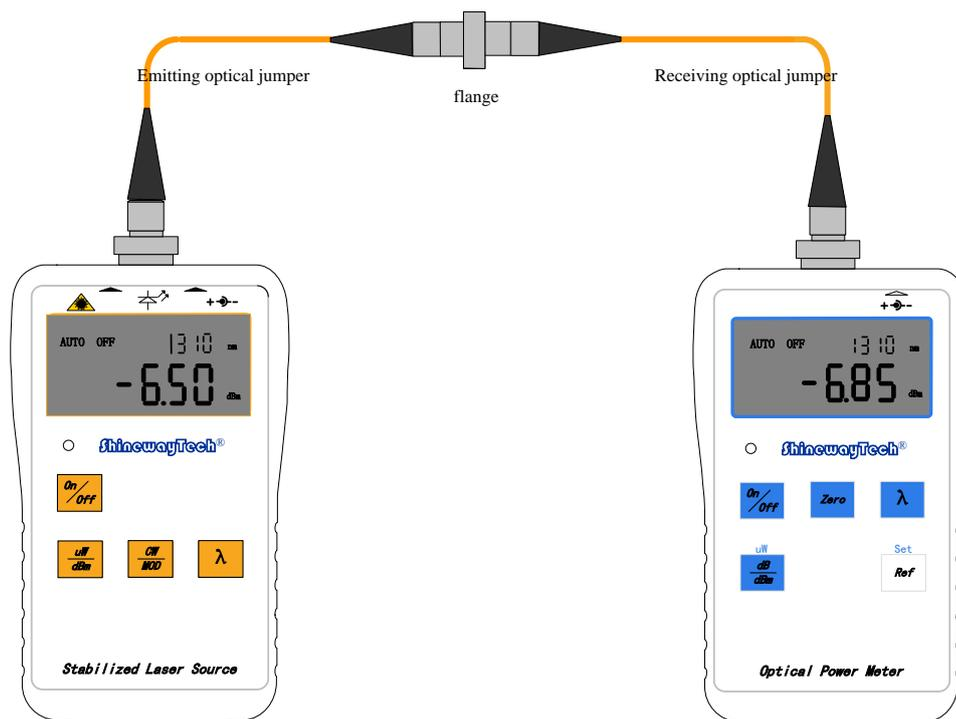

FIGURE25. SKETCH MAP OF CONNECTION
1. Connect SLS-21 with OPM-15 (or OPM-21/OPM-25) with one at least 3-meter long optical jumper cable. Power on both instruments and set the wavelengths of laser source and optical power meter both to 1310nm. Reading from the optical power meter is from -6.5dBm to -7.25dBm in our expectation per Figure25.